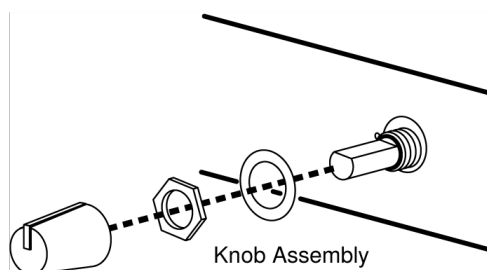

FIGURE 2
2. Remove the knobs and retainer nuts from the front panel (See figure 2).